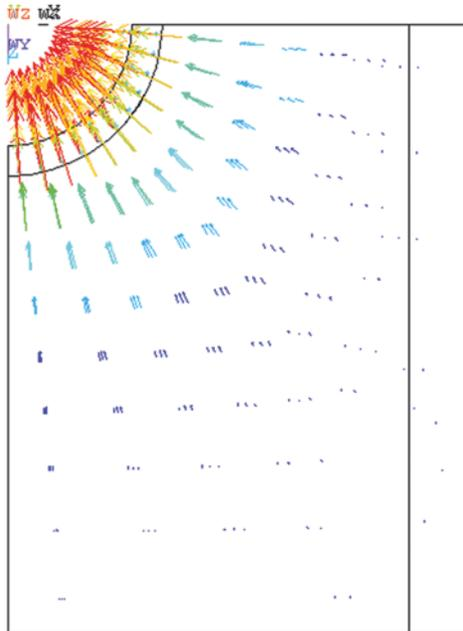

Fig. 9.27 Top view of thermal flux vectors
- Figures 9.27 and 9.28 show the flux vectors as they appear in the *Graphics Window*, viewed from top and left, respectively.